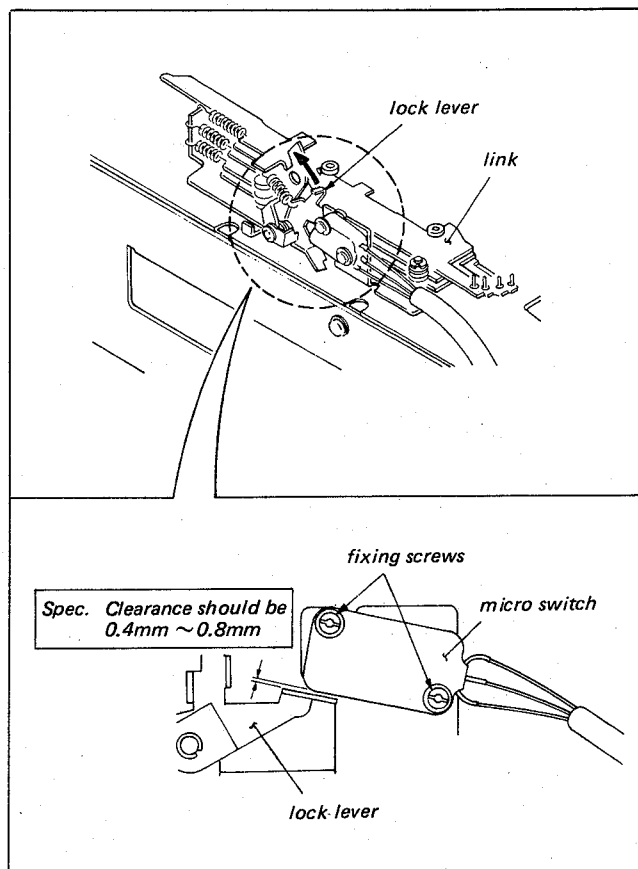

Fig. 4-32. Cassette-up switch position adj. (EJECT mode)
2. Push the Lock Lever with finger in the arrow direction shown in Fig. 4-32 as far as it will go. Observe clearance between micro-switch side face and the Lock Lever at around the sensing protrusion of the micro switch. The clearance of 0.4 mm to 0.8 mm should be observed. If not, adjust the mounting position of the micro switch.